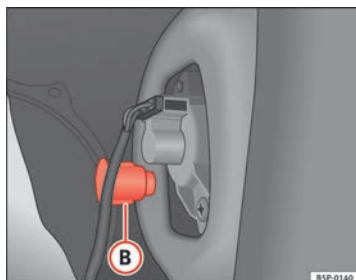

Fig. 190 Side lights and brake lights
- Unscrew the plastic fitting ⇒ Fig. 190 **B** securing the tail light. Inserting a screwdriver under the plastic fitting may help to loosen it.